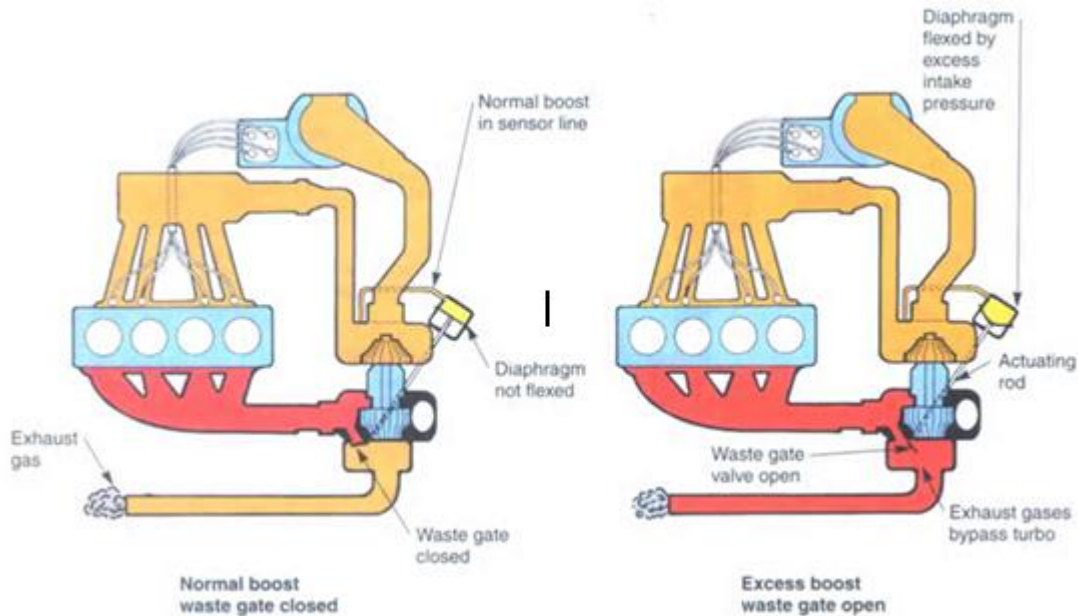

Fig. 9.2
***Under full load, boost may become high enough to overcome the diaphragm spring pressure. Manifold pressure compresses the spring and opens the waste gate valve. This permits some of the exhaust gases to flow through the waste gate passage and into the exhaust system. Less exhaust is left to spin the turbine. Boost pressure is limited to a preset value. (Fig.9.2)***